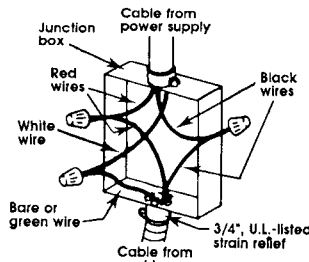

Figure 1
2. Connect the two black wires. Then connect the two red wires. (See Figure 1.)